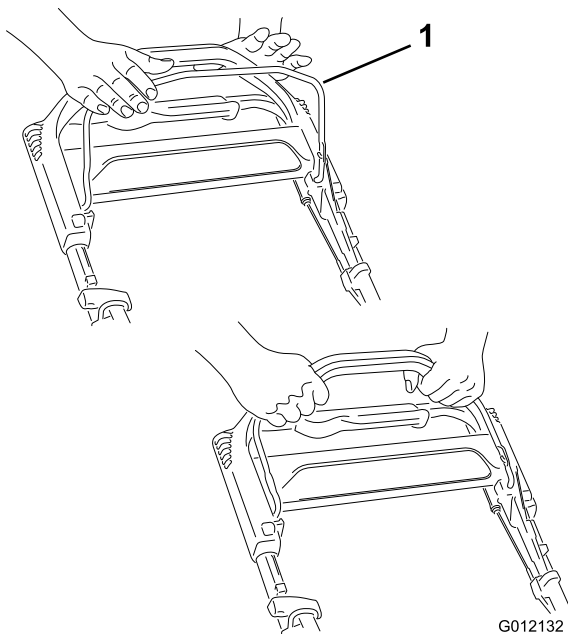

Figure 11
1. Hold the blade control bar (Figure 11) against the handle.